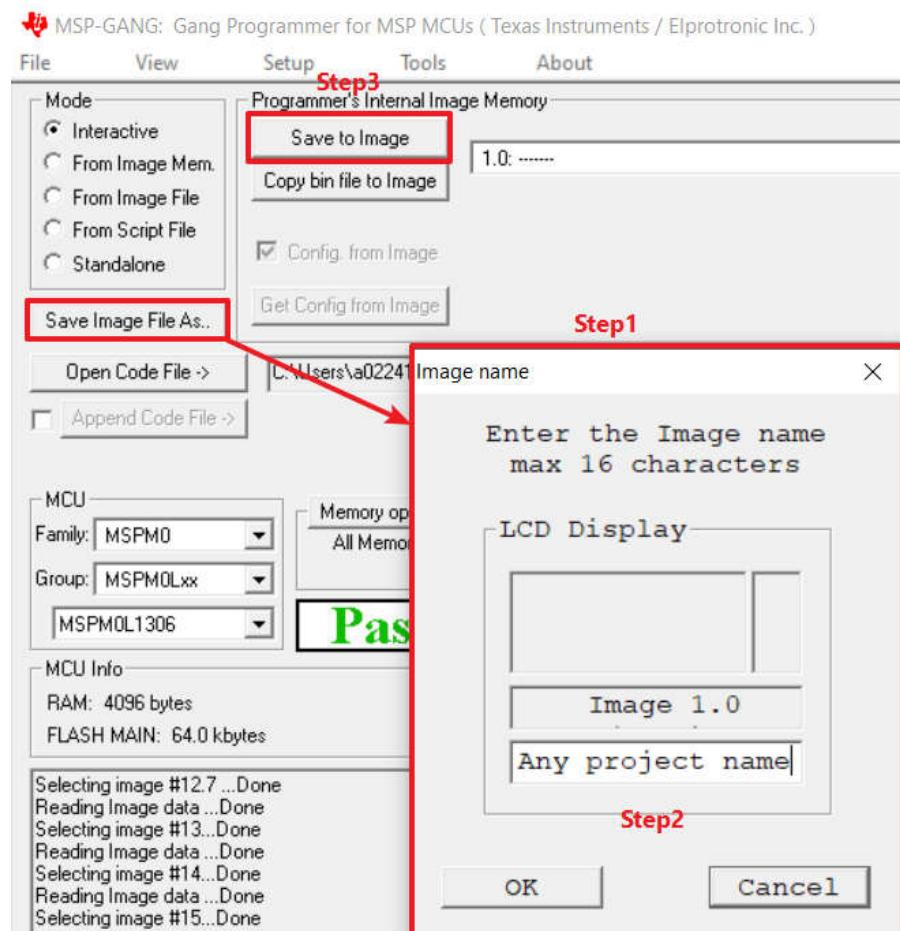

Figure A-21. Generate and Save Image
4. Save the code file and settings into MSP-GANG. You can give a project name to this image. Then click "Save to Image" as shown in Figure A-21.